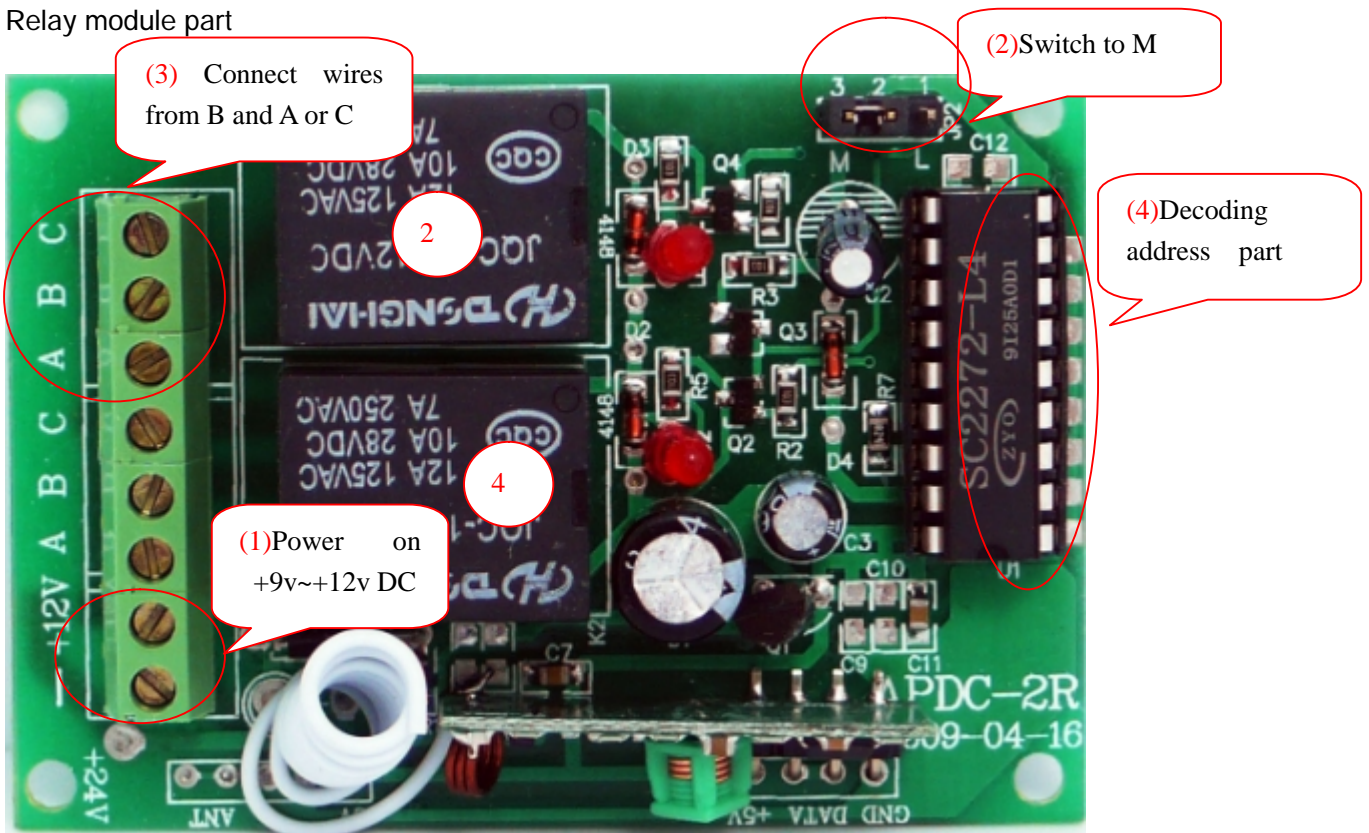

Fig 1 Relay module
(1) Power on +5v DC.
(2) Choose the pins corresponding with remote relays you want to control.
- 2- Correspond with relay labeled 2 on figure 1.
- 4- Correspond with relay labeled 4 on figure 1.